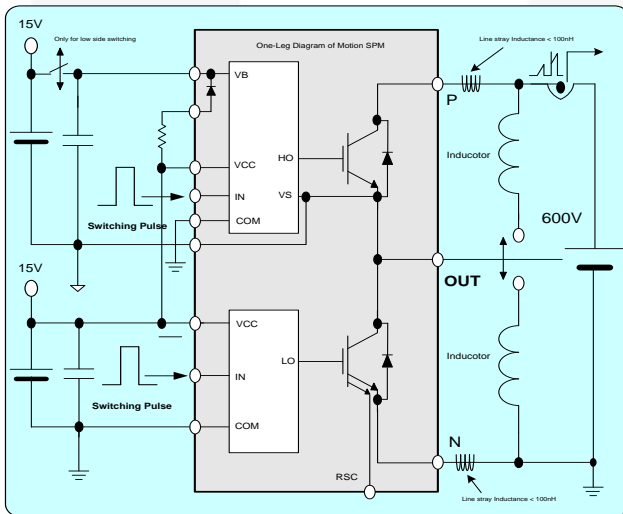
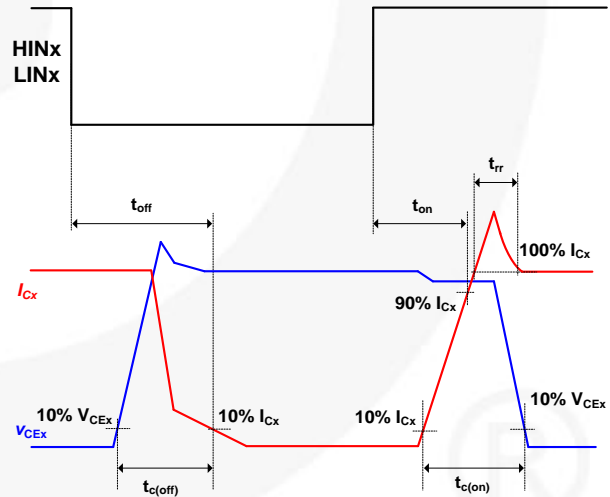

Figure 6. Switching Evaluation Circuit
Figure 7. Switching Time Definition
- t_{ON} and t_{OFF} include the propagation delay of the internal drive IC. T_{C(ON)} and t_{C(OFF)} are the switching times of the IGBT itself under the given gate driving condition internally. For the detailed information, see Figure 6 and Figure 7.